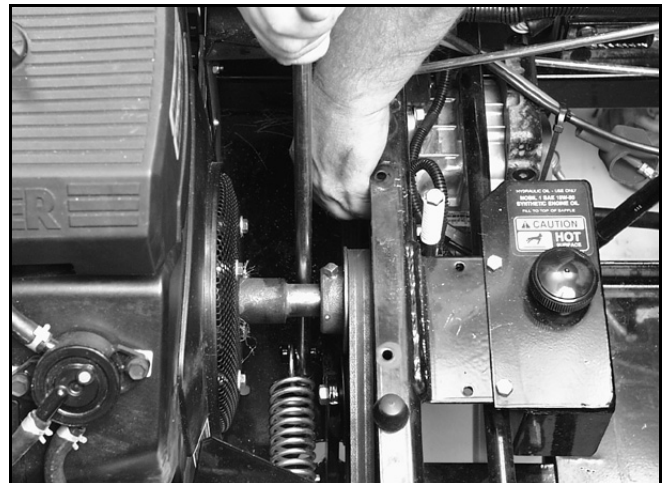

Figure 64
5. Using a suitable pry bar, release the spring tension on the idler pulley and remove the drive belt from the pump pulley (Figure 64).